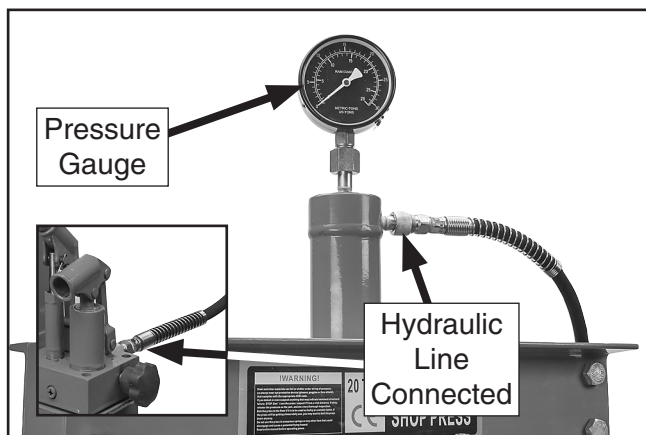

Figure 8. Pressure gauge and hydraulic line connected to hydraulic ram.
7. Connect hydraulic line to top end of hydraulic ram cylinder and hydraulic tank (see **Figure 8**).
8. Attach pressure gauge to the top of hydraulic ram (see **Figure 8**).